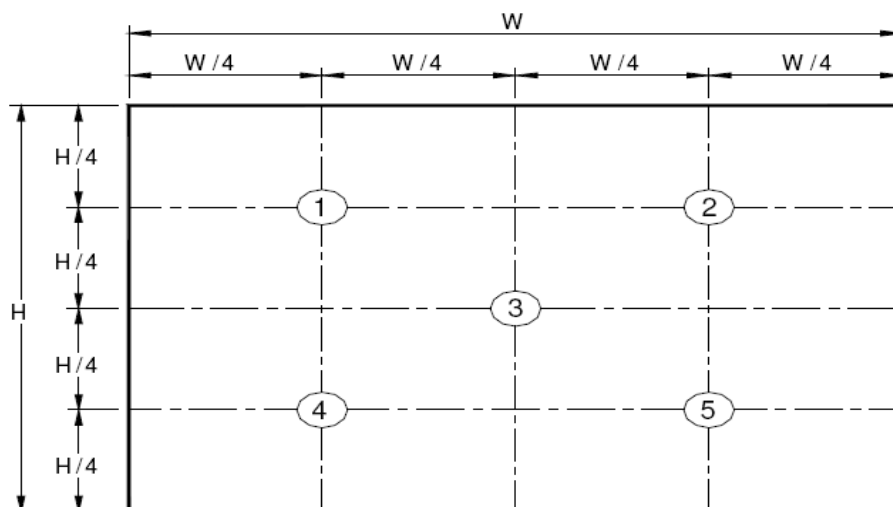

Figure 12.White Luminance Measurement Locations (5 points)
(3) The White luminance uniformity on LCD surface is then expressed as : $\Delta Y = \text{Minimum Luminance of 5 points} / \text{Maximum Luminance of 5 points}$ (see Figure 12).
(4) Definition of Contrast Ratio (CR):
The White luminance uniformity on LCD surface is then expressed as: $\Delta Y_{13} = \text{Minimum Luminance of 13 points} / \text{Maximum Luminance of 13 points}$ (see Figure 12).